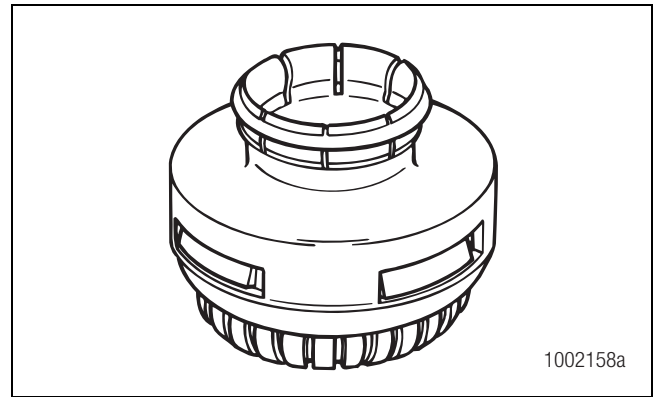

Figure 1.24
**Purge Silencer:** Optional part for all Meritor WABCO air dryers. It is used to reduce the noise level of an air dryer purge. Figure 1.24.